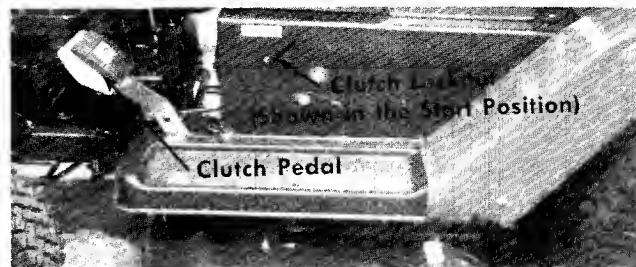

**FIGURE 9. RIGHT HAND CONTROLS**
**c. Brake.** The brake pedal is located on the right hand side of the mower and is operated by depressing it with your right foot. See figure 9.
**d. Brake Lock.** The brake lock is located on the right hand side of the mower. To lock the brake, depress the brake pedal and lift up the lock button. The pedal will stay depressed. To release, depress the pedal. See figure 9.
**j. Lift and Disengagement Lever.** It is used to raise the cutting deck. Pulling it all the way back and locking it disengages the blades. The engine will not start unless the lift and disengagement lever is in the disengaged position. See figure 9.
Step 3. Place the lift and disengagement lever in the DISENGAGED position. See figure 9.
To stop the blades, move the lift and disengagement lever (figure 9) into the DISENGAGED position. This raises the deck and disengages the blades.